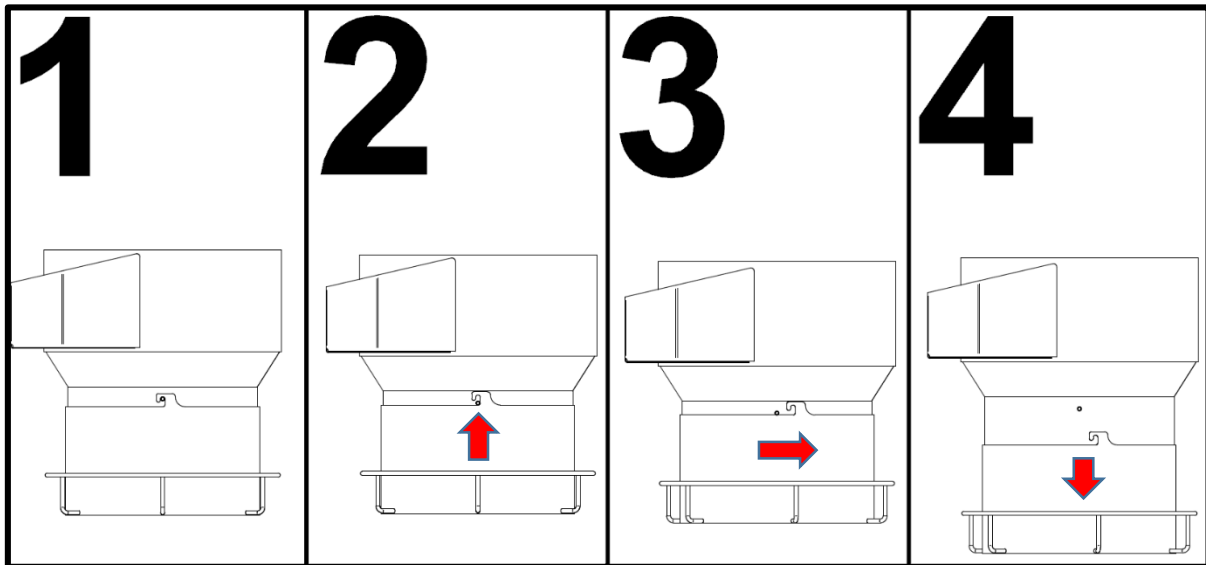

Figure 5.3
1. At **fig. 5.3 pos. 1**, you can see the locked position of the LONGOPACK® plastic bag holder and to take it off you should:
- Lift the holder upwards about 10-15mm to unlock it **fig. 5.3 pos.2**;
- Rotate the holder enough that you can bring it down and take it off from the filter chamber **fig. 5.3 pos.3**;
- Take off the holder **fig. 5.3 pos.4**;
2. After you install the new bag, you need to attach the holder back to the filter chamber by following the steps from fig. 5.3, performing it backwards.